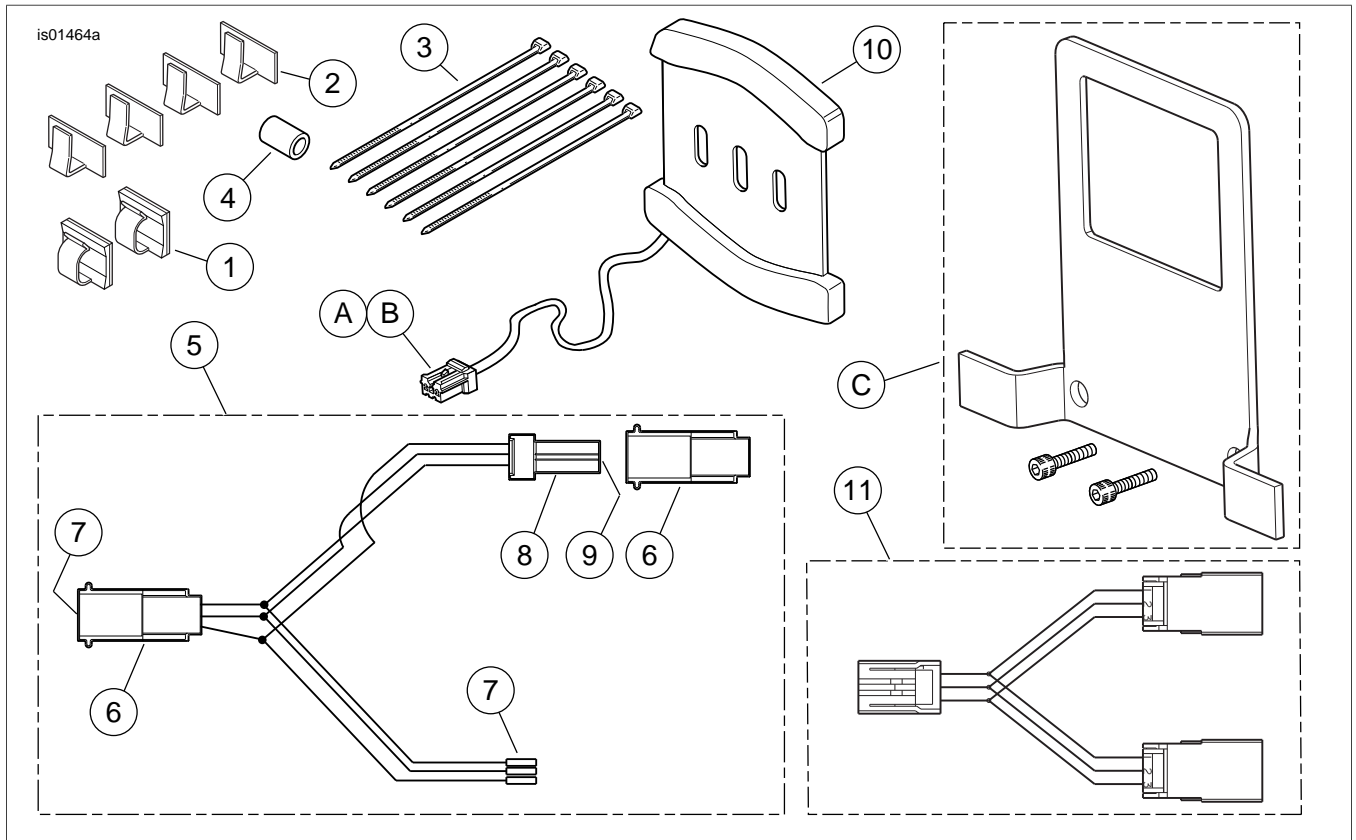

Figure 8. Service Parts, Sissy Bar Auxiliary Brake and Tail Lamp Kits
Locate the rear lighting connector [40A] under the seat. See Figure 8. Install the Y-harness (11) between the rear lighting connector halves. Connect the sissy bar three-way socket housing to the open connector on the Y-harness.